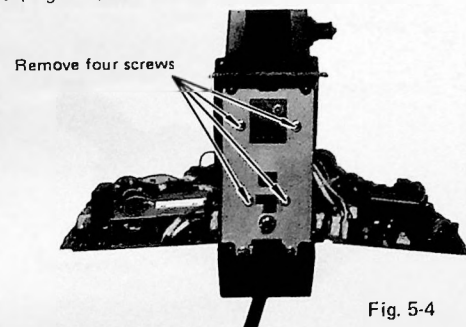

Fig. 5-4
- Remove the four screws holding the power circuit board (Fig. 5-4) and remove the circuit board.